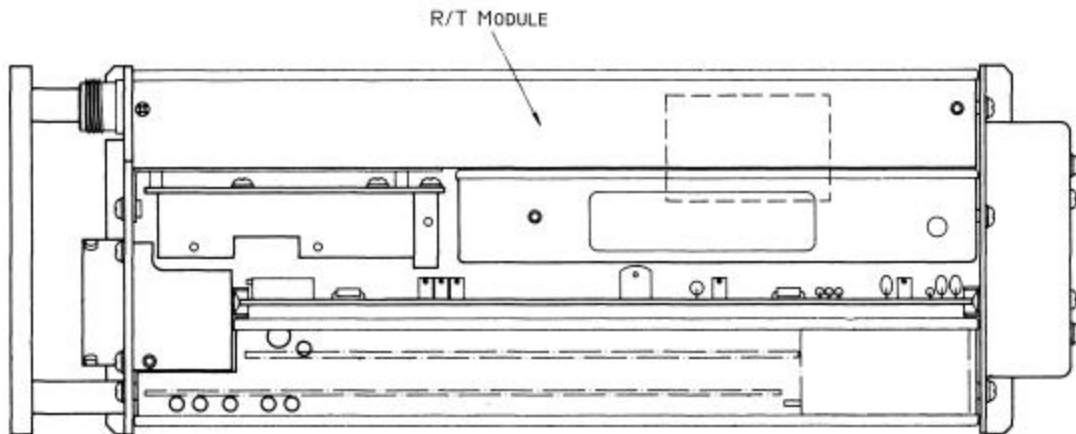

Figure 1. R/T Module Location
1. Disassemble the RT-138/RT-138F as necessary to access and remove the R/T Module, P/N 300-2239-000 (see Figure 1) (refer to the Maintenance Manual, RT-138, P/N 150-0101-000, or Maintenance Manual, RT-138F, P/N 150-1325-000).